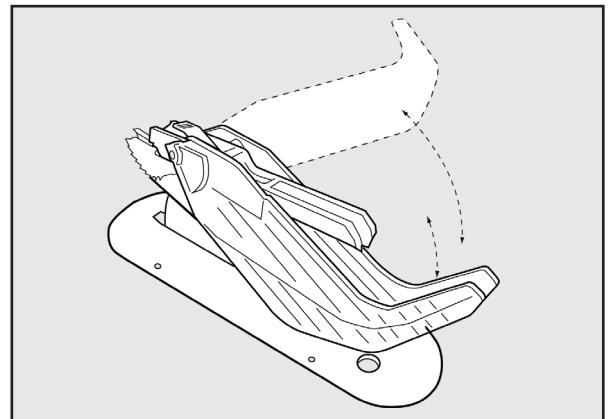

FIGURE 26
1. Refer to Figure 26 and, lifting the guard from the front, raise the guard shield until it snaps into a locked position above the table. One or both guard shields can be raised.